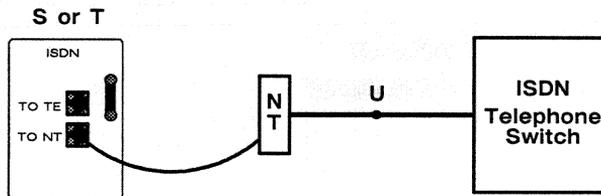

Figure 48-6 When emulating DTE in normal transmit mode, break the S or T interface toward the ISDN switch.
3. *Emulate DTE in normal transmit mode.* Figure 48-6 shows the ISDN TIM test configuration when emulating DTE in normal transmit mode. Connect the **TO NT** interface to the network side of the line.